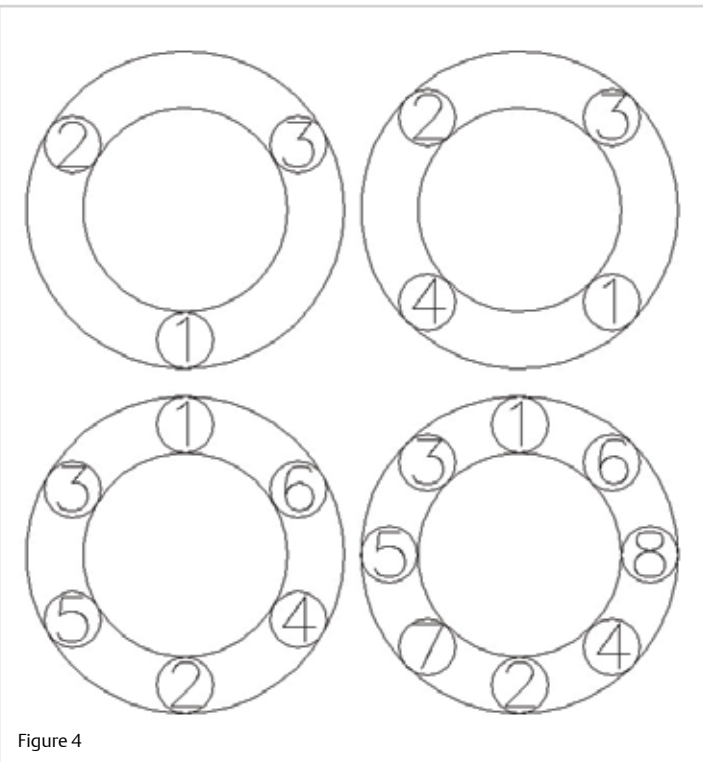

Figure 4
- Step 1: Tighten cap screws in specified order as seen in Figure 4; continue tightening until all cap screws have become snug.
- Adapter mount units: Loosen cap screws in the specified order as seen in Figure 4 and slide the bearing off the shaft.